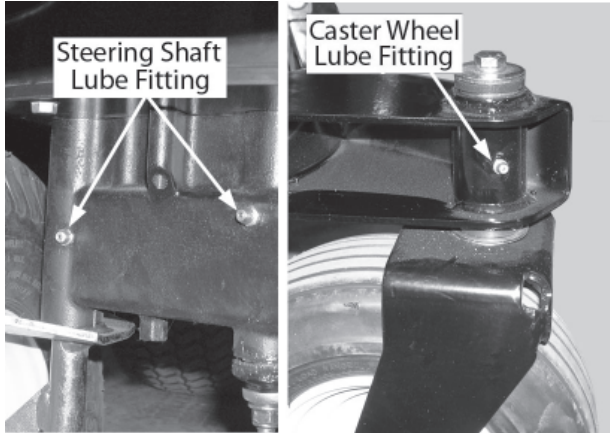

Figure 6-3
- Working from the rear of the tractor, apply grease through the two lube fittings on each end of the pivot bar. See Figure 6-3.
- Working at the front of the tractor, apply grease through the lube fitting for both caster wheel axles. Figure 6-3.